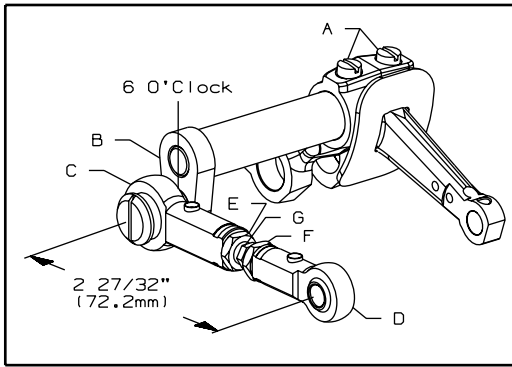

FIG. 28
At this time the knife drive lever should be in the 6 o'clock position. If adjustment is necessary, loosen screws (A, Fig. 28) in the needle lever and reposition knife drive lever (B) to the 6 o'clock position. Tighten screws (A). The dimension between the centerline of right and left knife drive connection ball joints (C and D) must be $2 \frac{27}{32}$ " (72.2mm). Loosen left hand thread nut (E), right hand thread nut (F) and turn connecting rod (G) until dimension is achieved. Tighten nuts (E and F).